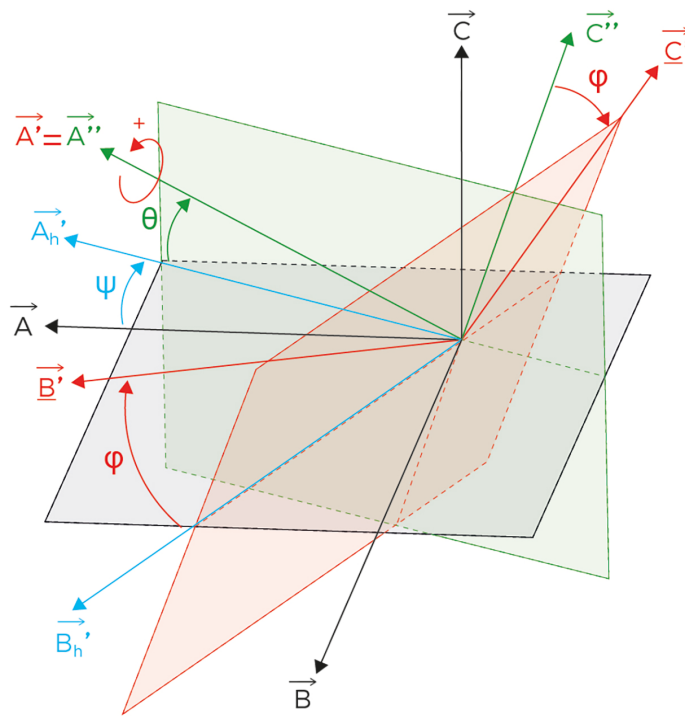

Figure 24 - Illustration of the third rotation around  $\underline{A}'$
- angle  $\varphi$**  (see Figure 24) to yield  $(\underline{A}', \underline{B}', \underline{C}')$ .